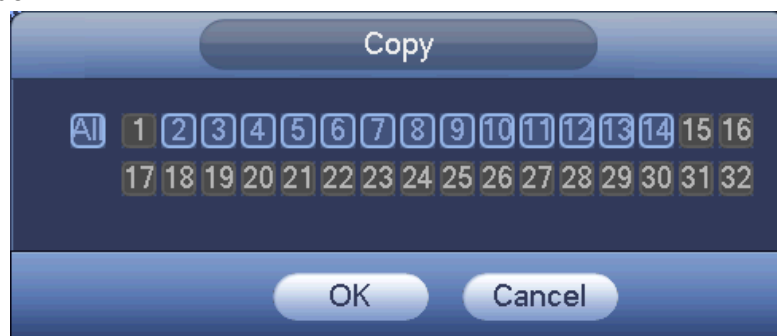

Figure 3-65
- Copy: After you complete the setup, you can click Copy button to copy current setup to other channel(s). You can see an interface is shown as in Figure 3-65. You can see current channel number is grey. Please check the number to select the channel or you can check the box ALL. Please click the OK button in Figure 3-65 and Figure 3-59 respectively to complete the setup. Please note, once you check the All box, you set same encode setup for all channels. Audio/video enable box, overlay button and the copy button is shield.
Copy function allows you to copy one channel setup to another. After setting in channel 1, click Copy button, you can go to interface Figure 3-65. You can see current channel name is grey such as channel 1. Now you can select the channel you want to paste such as channel 5/6/7. If you want to save current setup of channel 1 to all channels, you can click the first box “ALL”. Click the OK button to save current
copy setup. Click the OK button in the Encode interface, the copy function succeeded. Please note, if you select ALL in Figure 3-65, the record setup of all channels are the same and the Copy button becomes hidden.